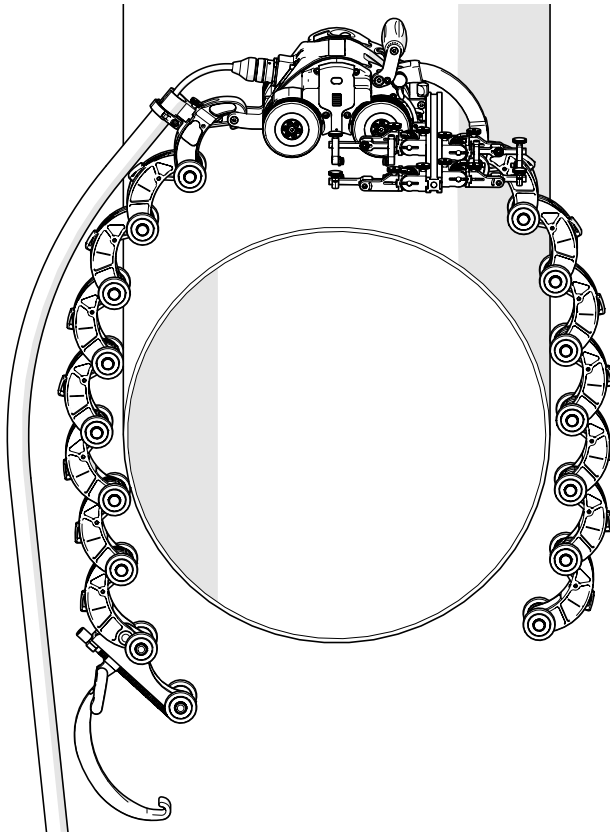

Fig. 194 - Place on pipe / tube
8. Drape the configured assembly around the pipe / tube to be inspected (Fig. 194).